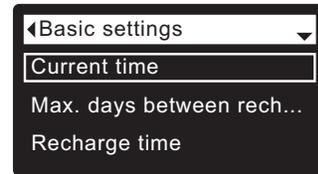

FIG. 37
3. Press the SELECT (O) button to display the Basic settings menu (See Figure 37).
7. Press the SELECT (O) button. The display will go back to the Basic settings menu (Figure 37).